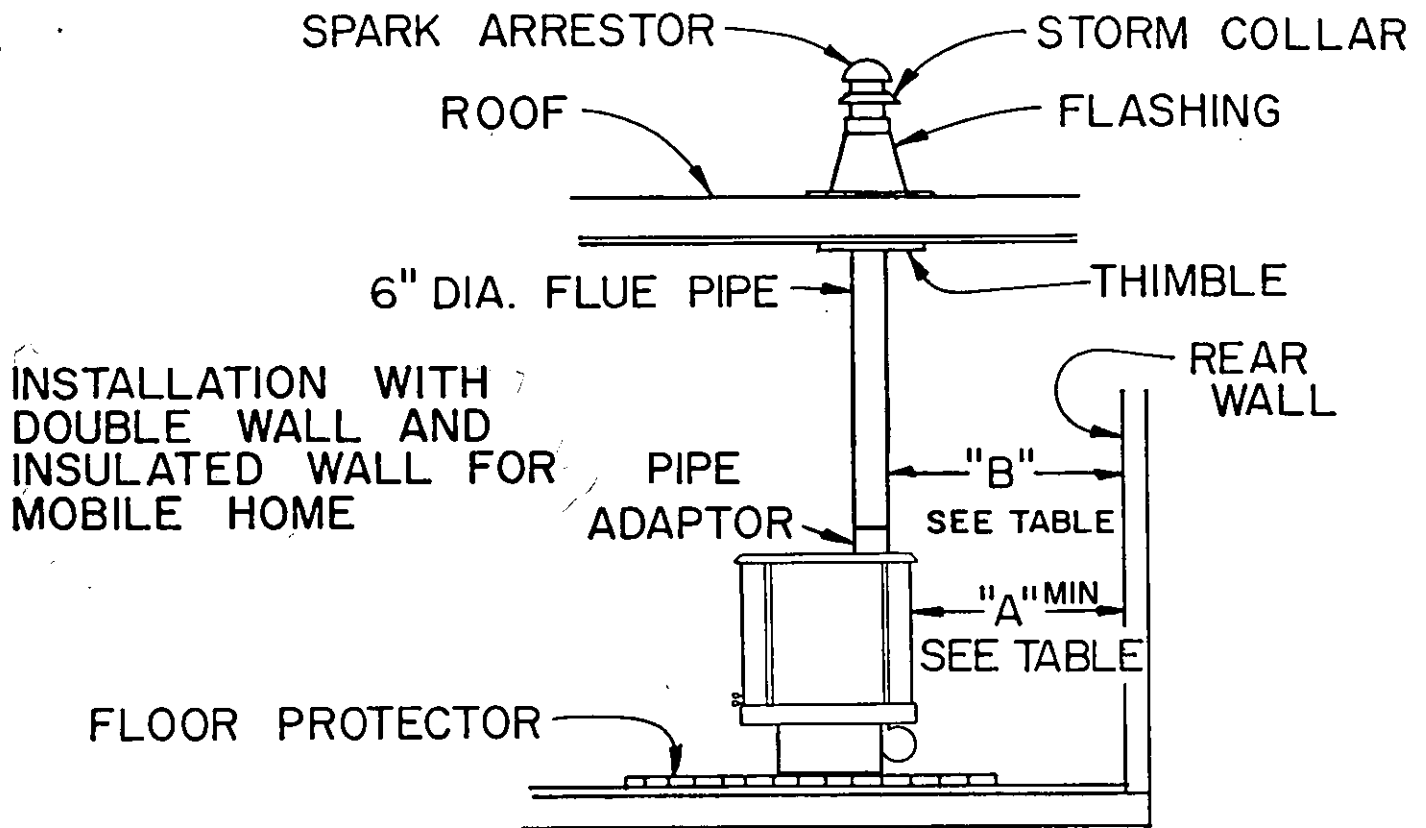

FIGURE 7
4. In a residential (See Figures 5 & 6) or mobile home (See Figure 7) installation the required minimum clearances are controlled by the chimney connector used. (See Table of Clearances).
MOBILE HOME CHIMNEY: The chimney must comply with the standard for chimneys, factory built, residential type and building heating appliance, UL103. The chimney should extend at least 3 feet above the part of the roof that it passes through. Top of chimney should be 2 ft. above highest part of roof within 10 ft. of chimney. The chimney should be removable at or below an elevation of 13 1/2 feet above ground level. A spark arrester should be attached to the top of the chimney. (See Figure 7).